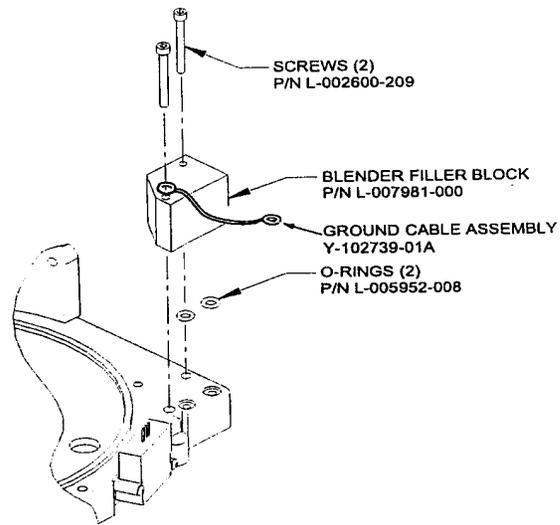

FIGURE 4-5.
2. Install and seat each of 2 O-rings (P/N L-005952-008) into 2 manifold ports. See Figure 4-5., *Right End/Manifold Repairs*.
3. Orient and install the blender filler block (P/N L-007981-000) onto the manifold. See Figure 4-5., *Right End/Manifold Repairs*.
assembly (P/N Y-102739-01A) and blender filler block as shown in Figure 4-5. Insert another screw same size, into the other filler block hole. Secure the blender filler block to the manifold, using a Milwaukee battery-powered screwdriver set at “2” (or equivalent) with a 7/64-in hex bit to install screws until the screw heads just make contact with the blender filler block. Alternately tighten each screw with a torque driver set at 8 in-lbs (.904 N-m) with a 7/64-in hex bit.